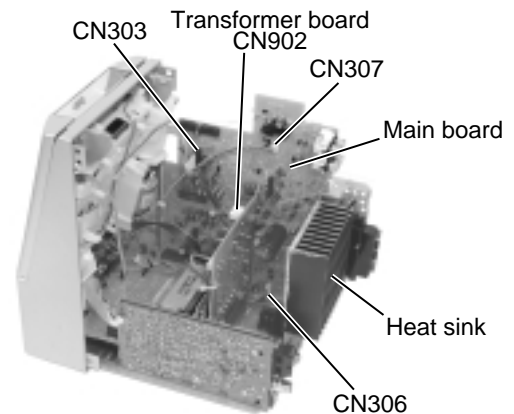

Fig.7
■ Removing the main board / the heat sink (See Fig.7 to 9)